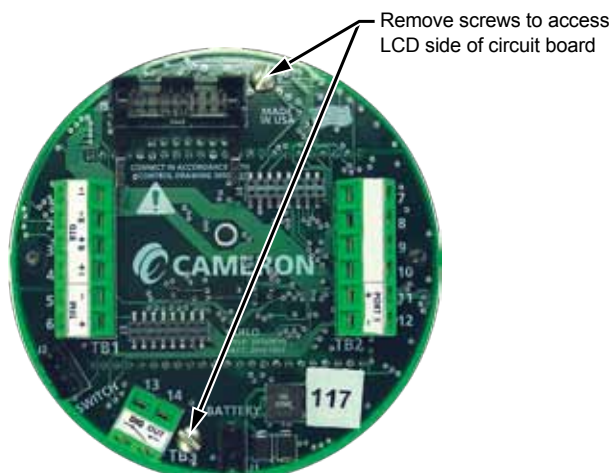

Figure 6.7—Disassembly of main board/keypad assembly
12. Remove the two #4-40 × 5/16" screws fastening the main board to the keypad (Figure 6.7, page 76).